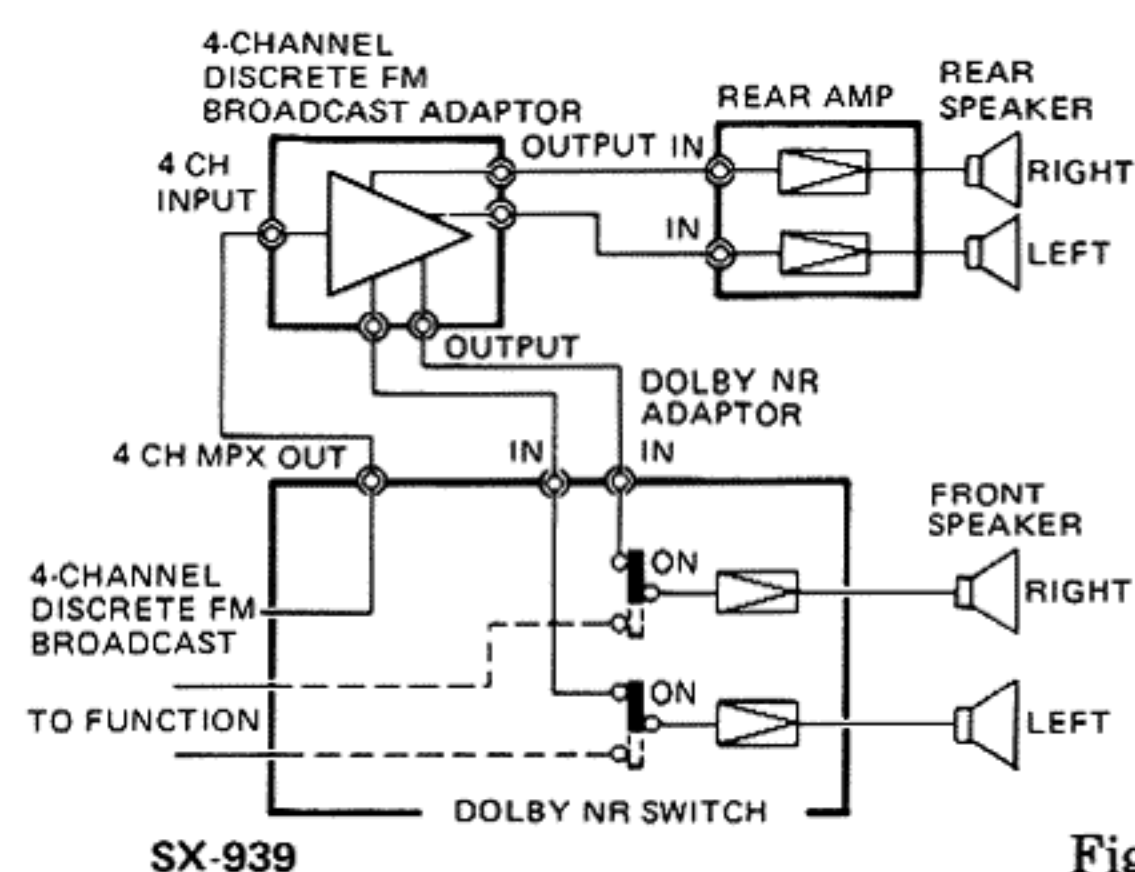

Fig. 21
1. The adaptor is connected as shown in Fig. 21 to the 4 CH MPX OUTPUT jack of the receiver.